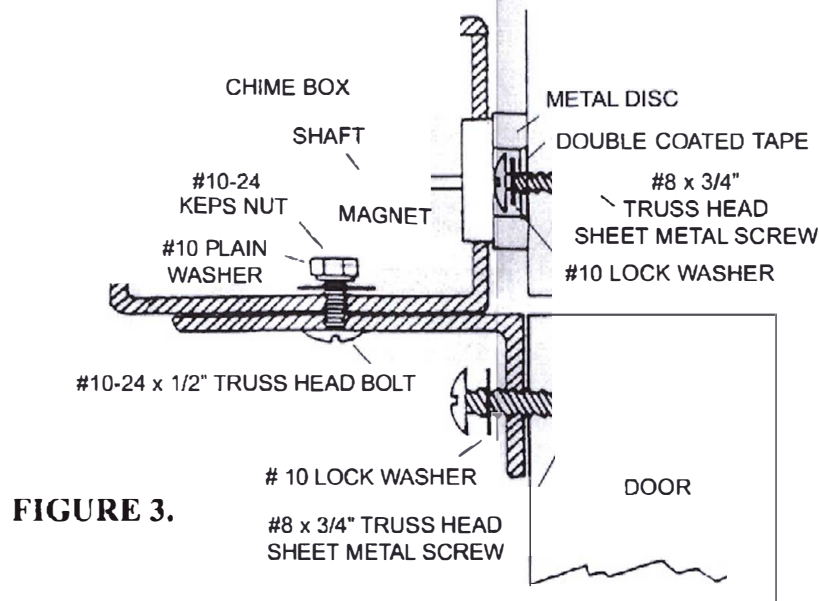

FIGURE 3.
2. Place edge of bracket on mark and at same time, top of bracket must be flush with top of door. (see figure 3)
5. Using 2-#8 x 3/4 truss head sheet metal screws and 2 lock washers, secure bracket to door, aligning top edge of bracket with top edge of door. (See figure 3)
7. Place chime box on top of bracket with magnet cup and metal disc facing door frame header. (see figure 3)
8. Align slots in chime box with slots in bracket. Secure together with 2-#10-24 truss head bolts, 2 plain washers and 2 keps nuts. (see figure 3)
12. Drill center of hole in metal disc and secure with 1-#8 x 3/4 truss head sheet metal screw and lock washer. (See figure 3)